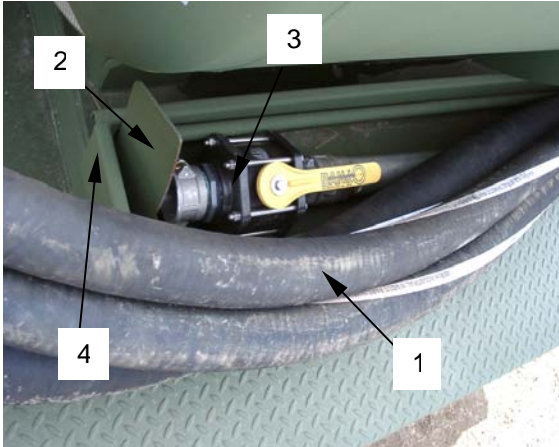

Figure 1. Equipment Tray Loaded
1. Remove hoses (**figure 1, item 1**), sludge rake (**figure 1, item 2**), and chopper tube/wand (**figure 1, item 3**) from the equipment tray (**figure 1, item 4**) to be replaced.
8. Install hoses (figure 1, item 1) sludge rake (figure 1, item 2), and chopper tube/wand (figure 1, item 3) in new equipment tray (figure 1, item 4).